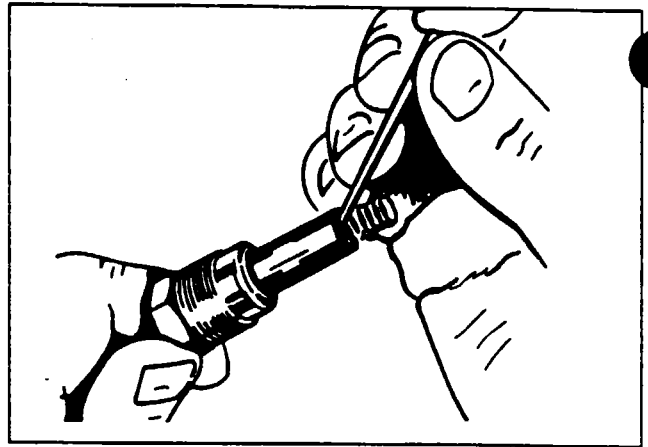

Figure 8-20. Removing Spring From Lead Assembly
1. Using a Scintilla 11-7073 Needle or a mechanical pencil with the lead retracted, hook the end of the contact spring as shown in Figure 8-20.